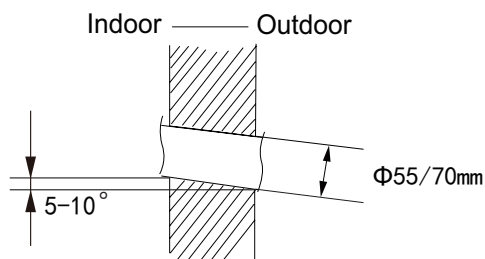

Fig.2
(2) Open a piping hole with the diameter of Φ55/70mm on the selected outlet pipe position. In order to drain smoothly, slant the piping hole on the wall slightly downward to the outdoor side with the gradient of 5-10°.(As show in Fig.2)